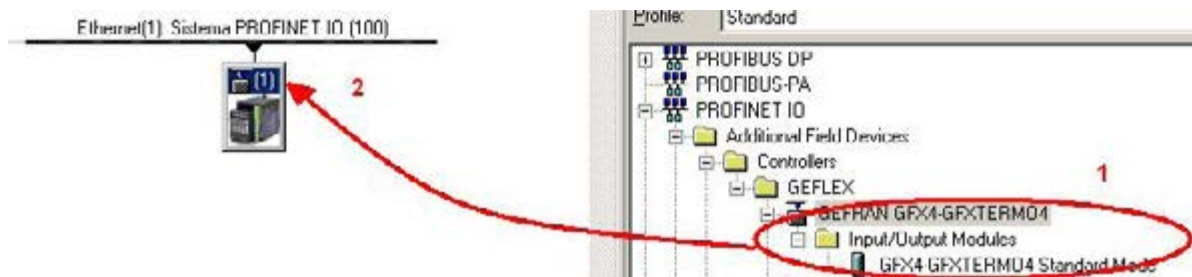

Figure 2
You can now connect to the network (2) by dragging the device (1) as shown in figure 2